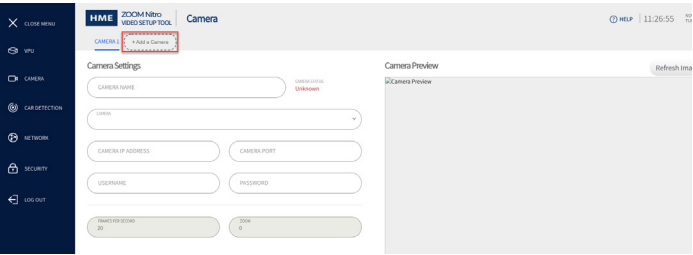

Fig. 6.6
2. Select CAMERA from the sidebar menu, tap on "+ Add a Camera," see Fig. 6.6.